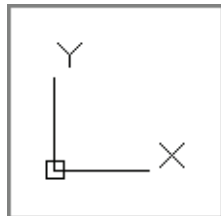

FIGURE 2.17
5. Type UCSICON, and press Enter. *UCS* stands for *user coordinate system*. You, the user, can change the coordinate system's orientation. Type on, and press Enter. An icon indicating the directions of the positive x- and y-axes is displayed in the lower-left corner of the canvas (see Figure 2.17).